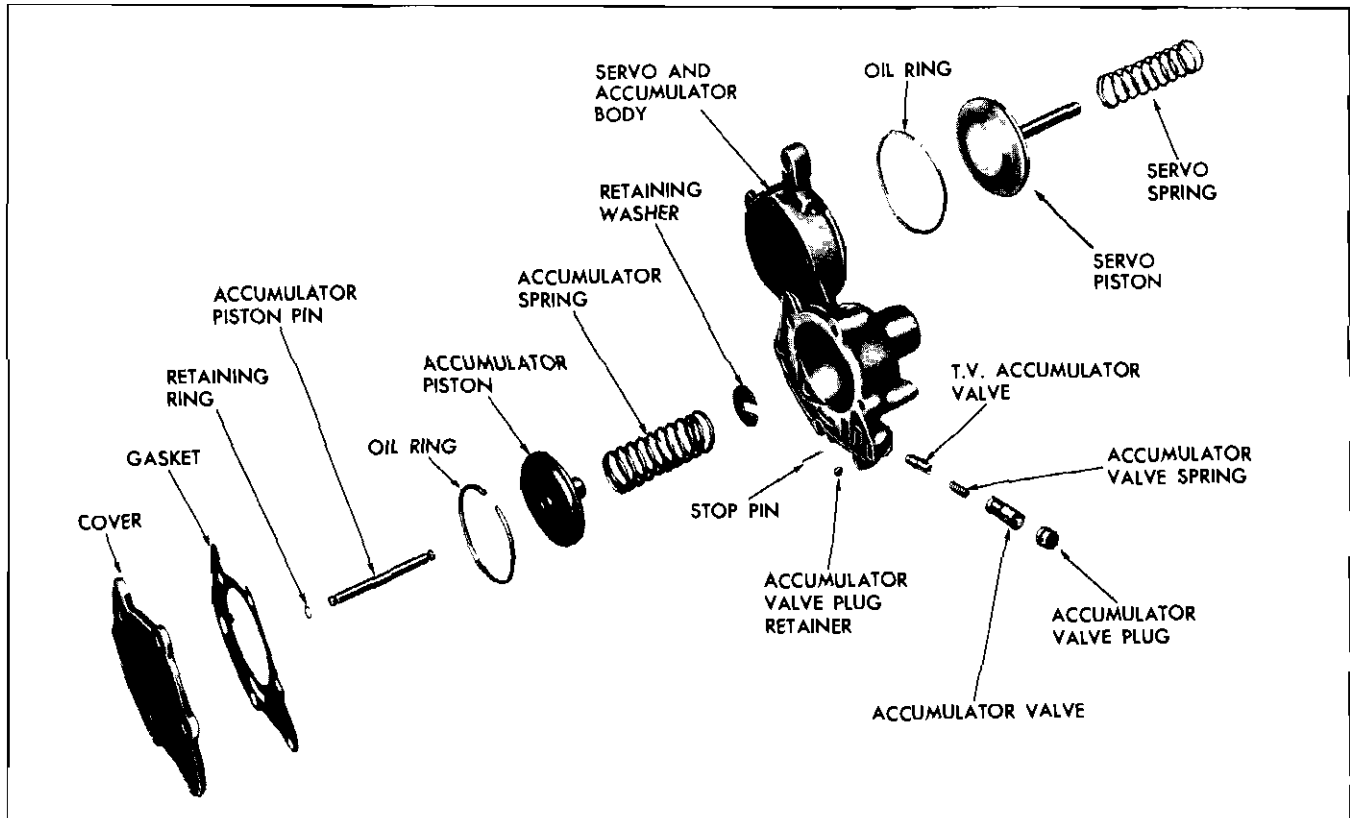

Fig. 132 Servo and Accumulator—Exploded
1. Remove servo piston from servo body (Fig. 132).
1. Inspect accumulator and servo pistons for damaged oil rings, scores, or burrs in the ring land grooves (Fig. 132).
1. Install oil ring on accumulator piston (Fig. 132).